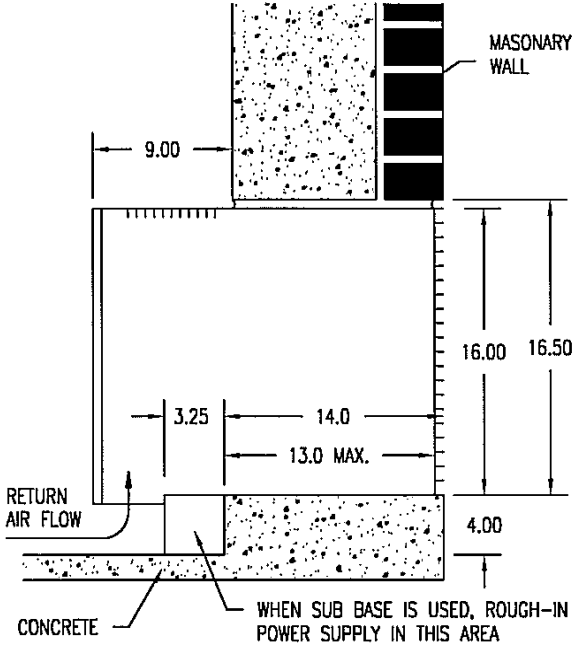

Fig. 2
A power supply cord with a 30 Amp 250 Volt male plug extends from the left side of the control section located on the right hand side of the unit. This cord is to be attached to a field-furnished receptacle mounted in the factory-provided junction box mounted in the sub base under the unit. The sub base is sized to fill the gap between the finished floor and the room cabinet when the wall sleeve is installed 4" above the finished floor as shown in Figures 2, and 3.
- The finished inside wall must be behind the outlet grille. (9" minimum from the front of the cabinet). See Figure 2.
- The outdoor louver must be flush or extending beyond the outside wall (no recess). Use a wall sleeve extension if necessary. See Figures 2, and 3.
2. For best results, the rear 13" of the cabinet should be supported by concrete, regardless of wall construction. The inside edge of the cabinet must be 4" above the finished floor to allow adequate space for air flow to the unit and to ensure proper fill by the sub base. See Figures 2, and 3.
3. Completely finish all concrete work associated with floor and wall. See Figure 2.